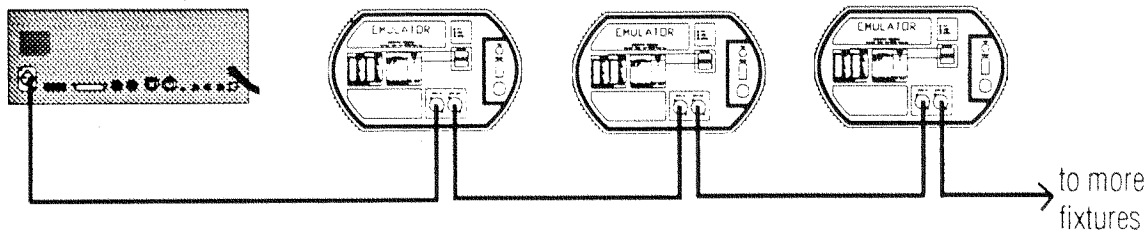

Figure 2.24 Emulator Data Cable Connections - Daisy Chain Method
3. If you are attaching 24 or less fixtures to one controller, the easiest way to string the fixtures together is to use the *daisy chain method*. (See Fig. 2.24)